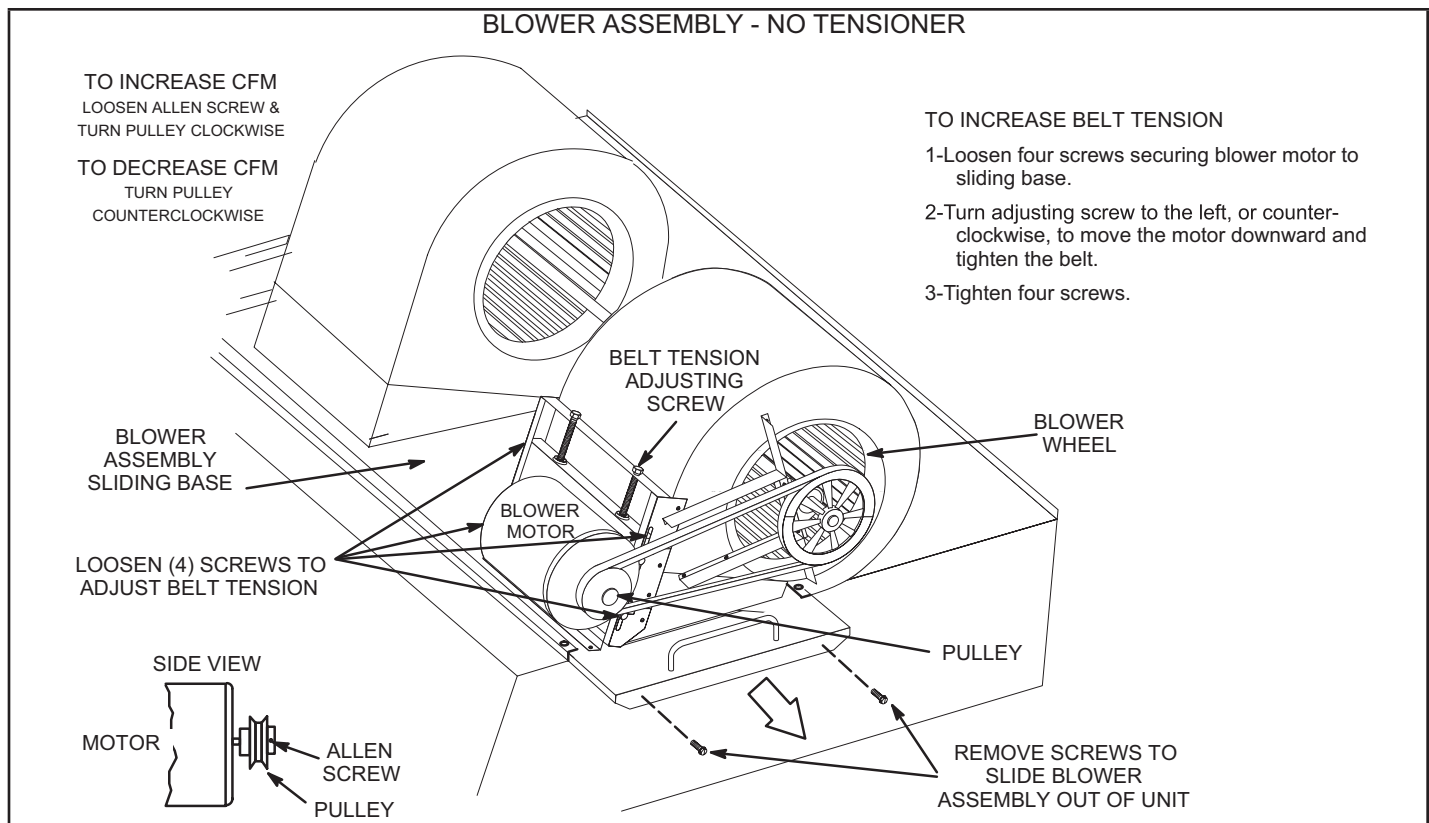

FIGURE 21
Remove screws on either side of blower assembly sliding base. See FIGURE 21.
The blower RPM can be adjusted at the motor pulley. Loosen Allen screw and turn adjustable pulley clockwise to increase CFM. Turn counterclockwise to decrease CFM. See FIGURE 21. Do not exceed minimum and maximum number of pulley turns as shown in TABLE 4.
- 1 - Loosen four screws securing blower motor to sliding base. See FIGURE 21.